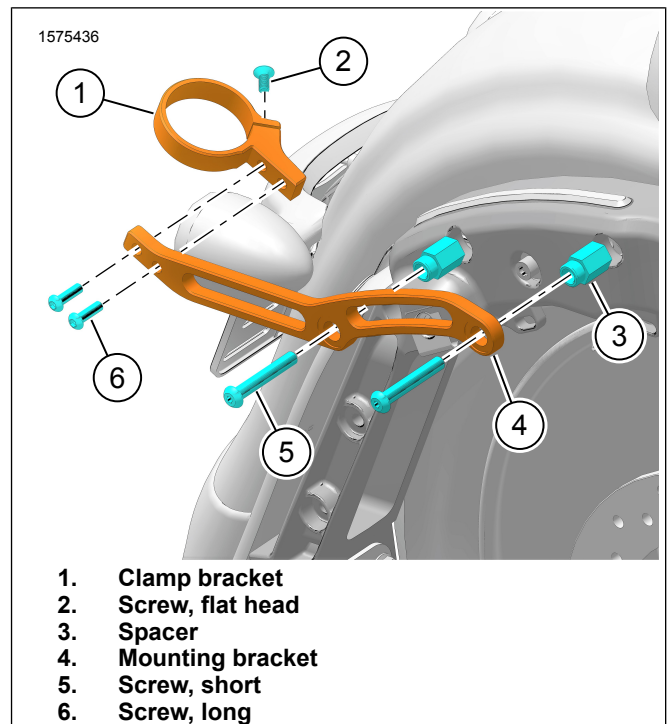

Figure 3. Mounting Brackets
1. See Figure 3. Install appropriate spacers (3) into mounting bracket (4). Tighten.
2. See Figure 3. Apply thread locker to screw (5).
- a. Install OE mounting hardware (4).
- b. Install screw (4) to shock assembly (5).
- c. Install inner washer (3).
- d. Install screw (4) to frame. Do not tighten completely.
- f. Tighten screws (4). See service manual.
6. Install reservoir (1) in clamp bracket.
- a. Adjust as needed for proper hose (2) routing.
7. See Figure 3. Install clamp bracket (1) to mounting bracket (4).
- a. Install screws (6). Tighten.